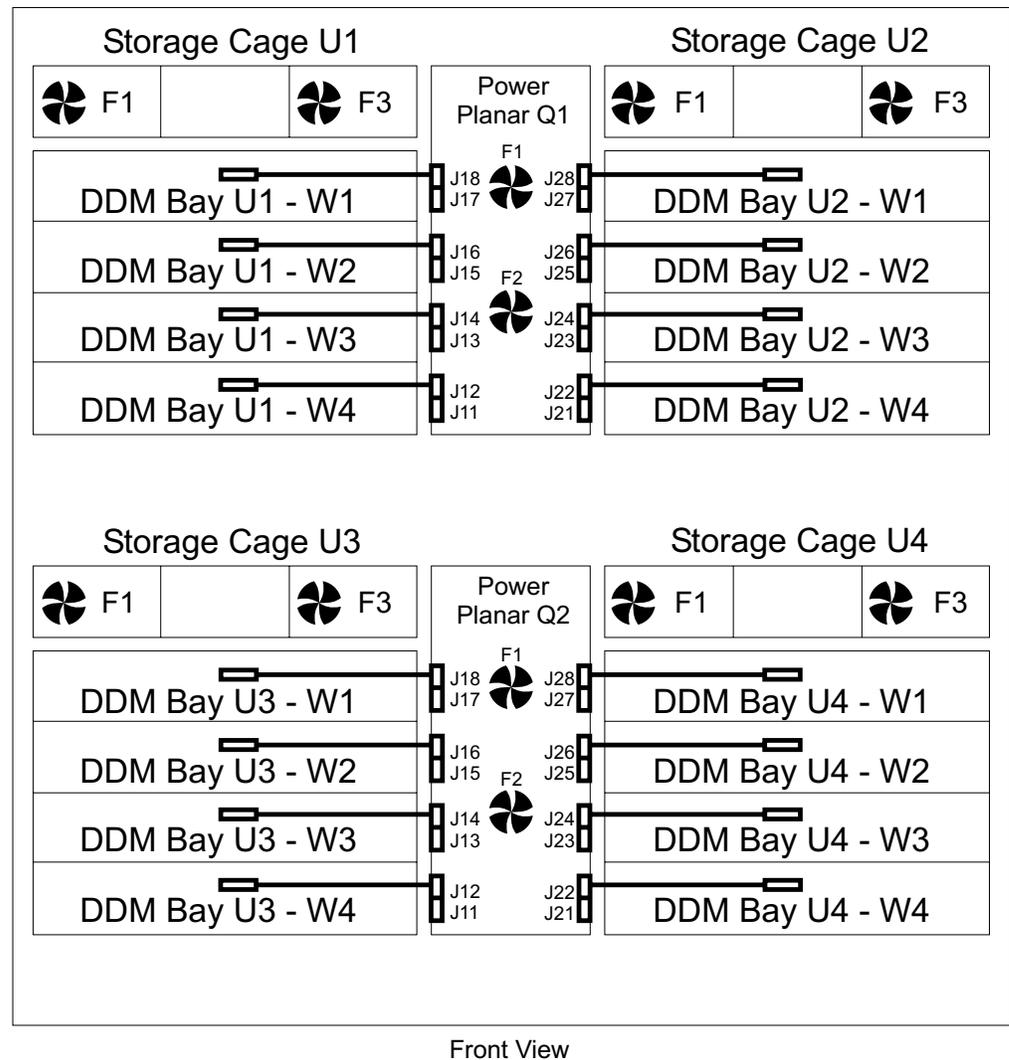
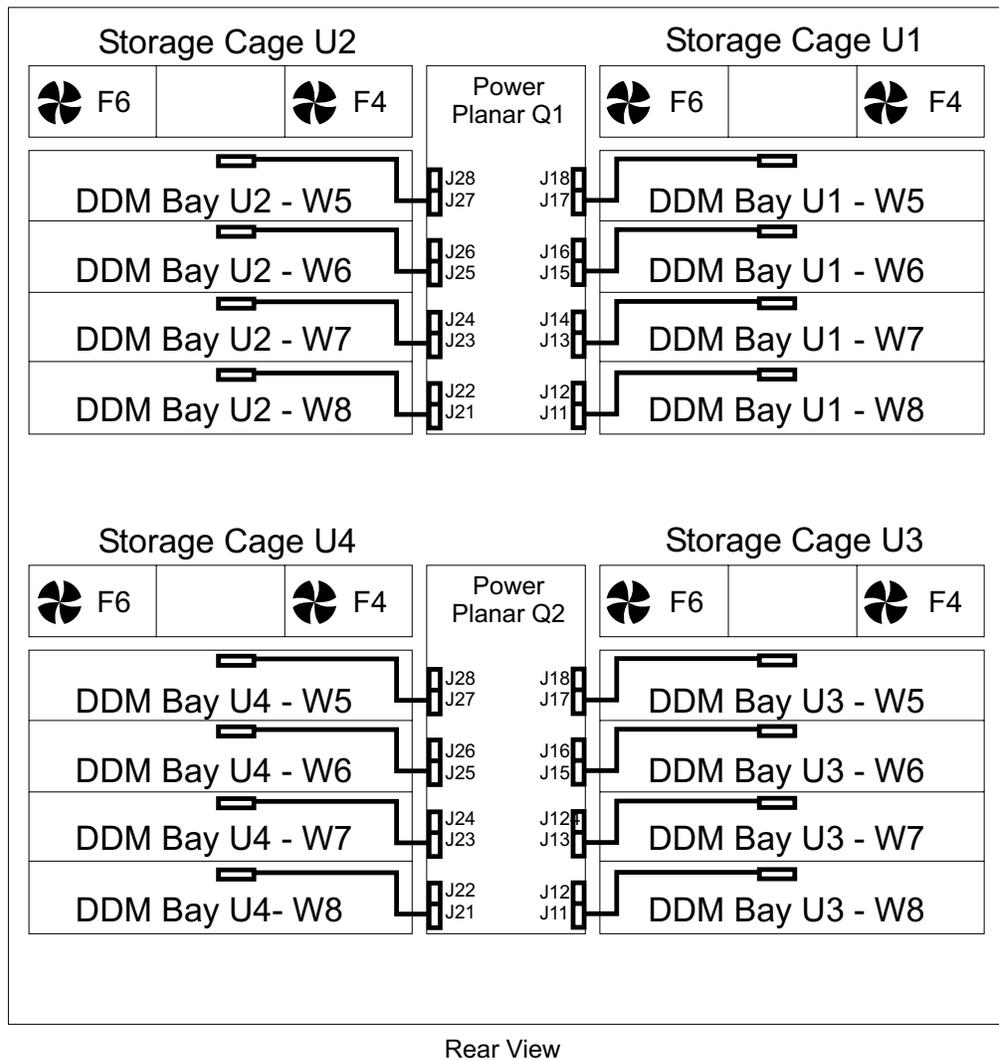

Figure 320. DDM Bay Front Power Cable Locations (S008812s)
Figure 321. DDM Bay Rear Power Cable Locations (S008813s)
- b. Check that the other end of the cable is plugged into the correct storage cage power planar **35** connector. See Figure 320 on page 325 and Figure 321 on page 326.